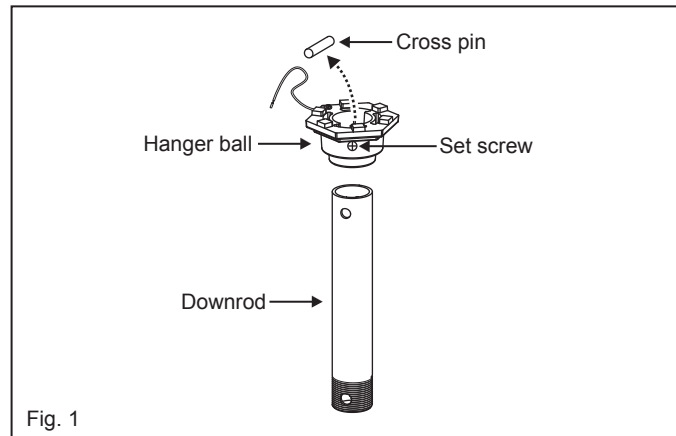

Fig. 1
- 1 Remove ball from downrod by loosening set screw in the side of the ball. Slide ball down and remove ball pin; remove ball. (Fig. 1)
1. Insert the receiver into the ceiling mounting bracket with the flat side of the receiver facing the ceiling. (Fig. 1) For best performance, make sure the Black Antenna and WIFI Antenna, on the end of the receiver, remains extended and not tangled with any of the electrical wires.